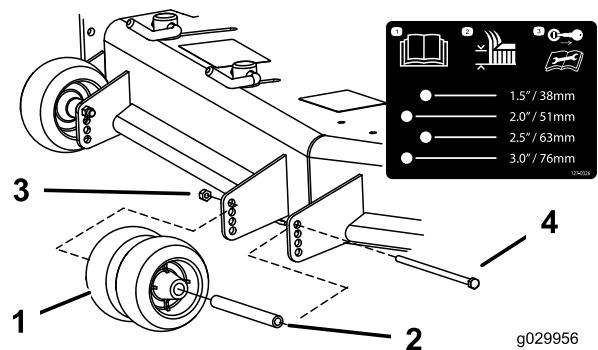
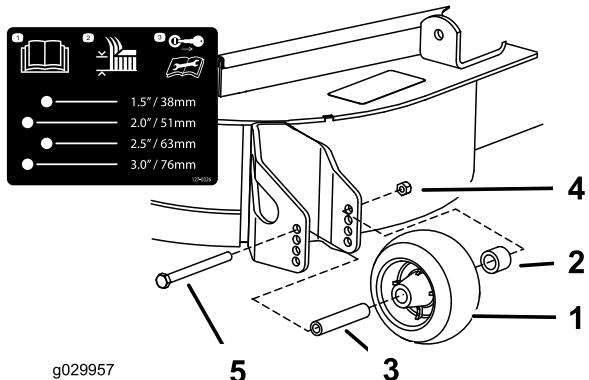
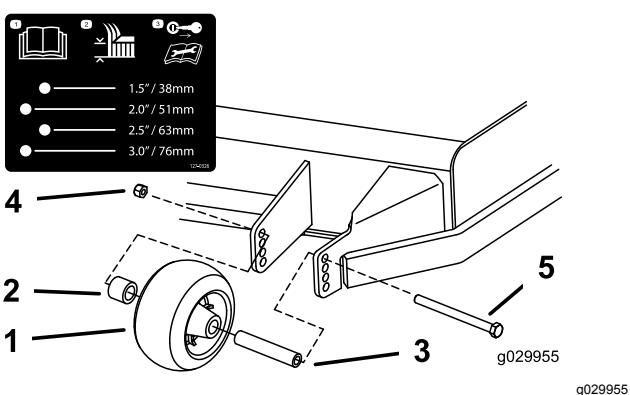

Figure 29
Figure 30
Figure 28
3. Adjust the anti-scalp rollers as shown in Figure 28, Figure 29, and Figure 30.